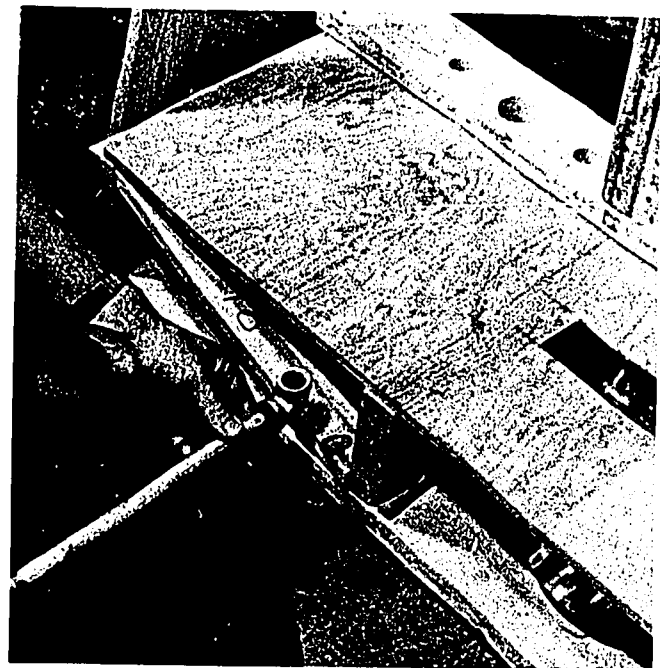

Fig. 50-11. Centering Pipe Under Cold Water Pipe Hole
11. Push the 12" pipe between the floor joists until the center of the elbow is directly under the center of the hole. See Fig. 50-11.